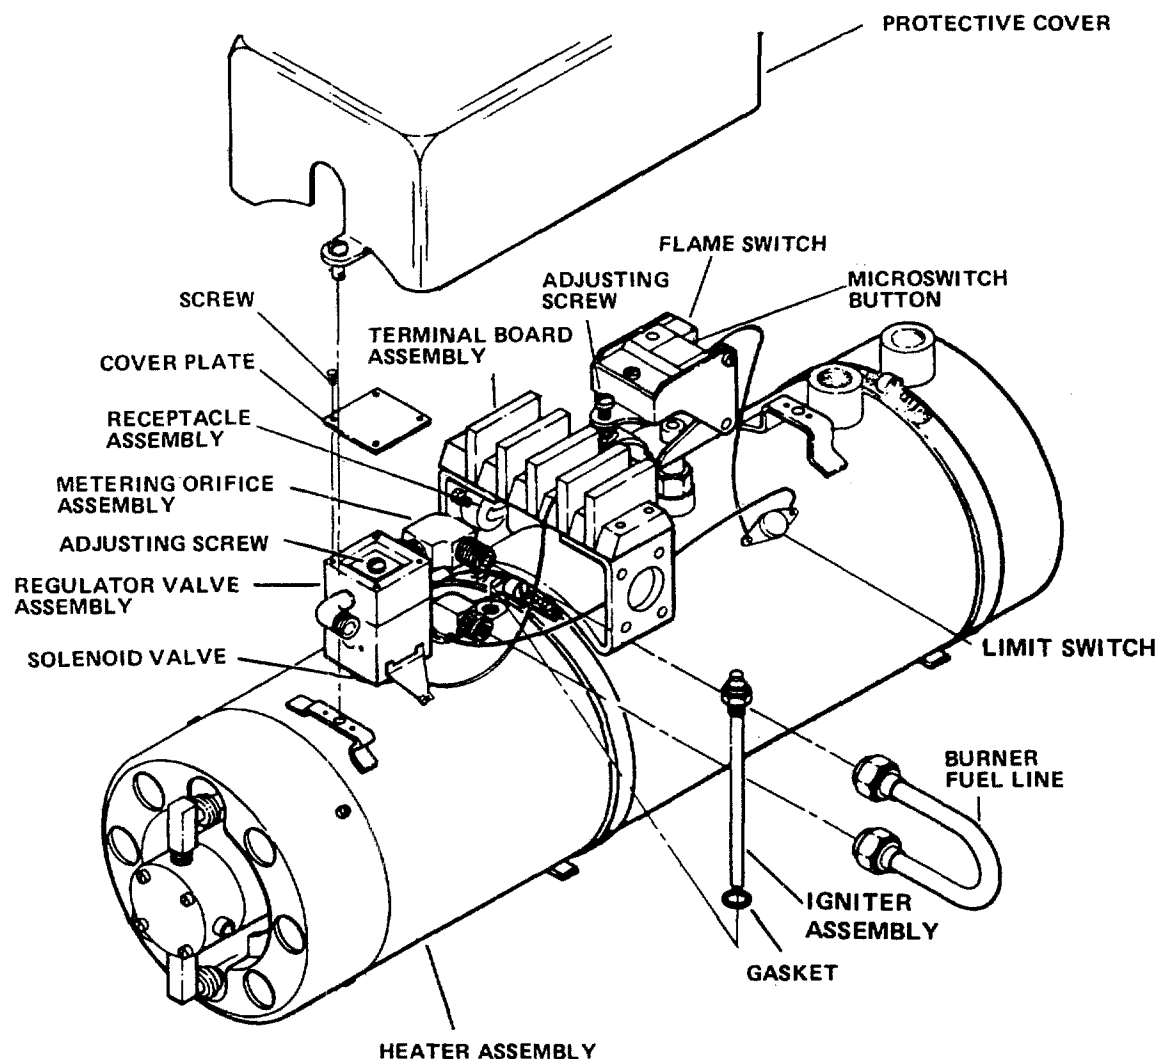

Figure 5-3. Fuel Burning Winterization Kit Heater Assembly, Maintenance
5-9. REGULATOR VALVE ASSEMBLY. Adjust the regulator valve assembly (see figure 5-3) as follows:
h. If flow is not within specified limits, rotate adjusting screw (figure 5-3) to obtain proper flow rate.
j. Install burner fuel line (figure 5-3).
5-10. TERMINAL BOARD. Inspect the terminal board (see figure 5-3) for cracks, carbon deposits on terminals, loose connections, or other obvious damage.
5-11. LIMIT SWITCH. The following paragraphs provide inspection and test procedures for the limit switch (see figure 5-3).
(1) Remove protective cover (figure 5-3) by loosening two captive screws.
(2) Tag and disconnect electrical leads to switch.
(3) Using a multimeter, check switch for continuity.
(4) Reconnect electrical leads to switch.
(5) Install protective cover by tightening two captive screws.
5-12. RECEPTACLE ASSEMBLY. The following paragraphs provide inspection, test, and replacement procedures for the receptacle assembly (figure 5-3).
5-14. FLAME SWITCH. The following paragraphs provide test and adjustment procedures for the flame switch (see figure 5-3).
(1) Remove protective cover (see figure 5-3) by loosening two captive screws.
(2) Rotate flame switch adjusting screw counterclockwise until heater motor starts.
(3) Rotate adjusting screw clockwise until motor stops.
(4) Give adjusting screw an additional 1/2 (180 degree) turn.
(5) Reinstall protective cover by tightening two captive screws.